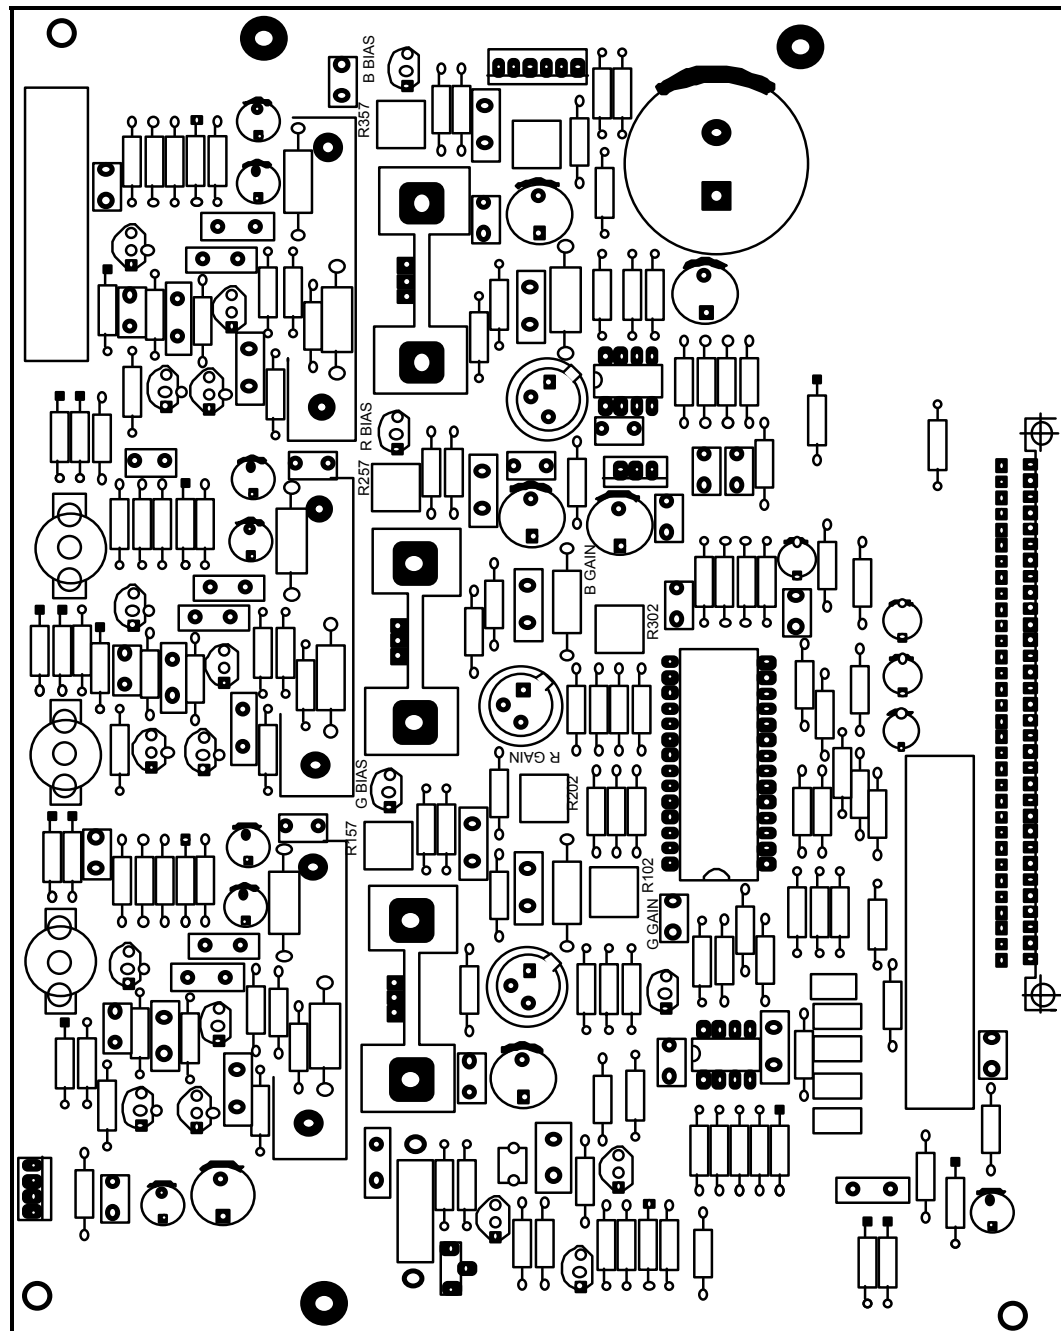

Figure 6-3 — Circuit Board FSV-301 Component Layout 4599
2. Adjust the Red Bias (R BIAS), Green Bias (G BIAS), and Blue Bias (B BIAS) controls, aligning the adjustment slot to the twelve o'clock position (see Figure 6-3).
4. Observing the display with a cupped hand or with an eyepiece, while in a darkened area, adjust each of the cathode bias controls in turn to balance cutoff levels. Using the R BIAS control (R257 in Figure 6-3), adjust CW until a dim red background is seen and then CCW to the point at which the red just disappears. Repeat this procedure using the G BIAS (R157) and the B BIAS (R357) controls.
3. The controls required for this adjustment are located on the video circuit card, FSV-301. Location of the controls are shown in Figure 6-3.